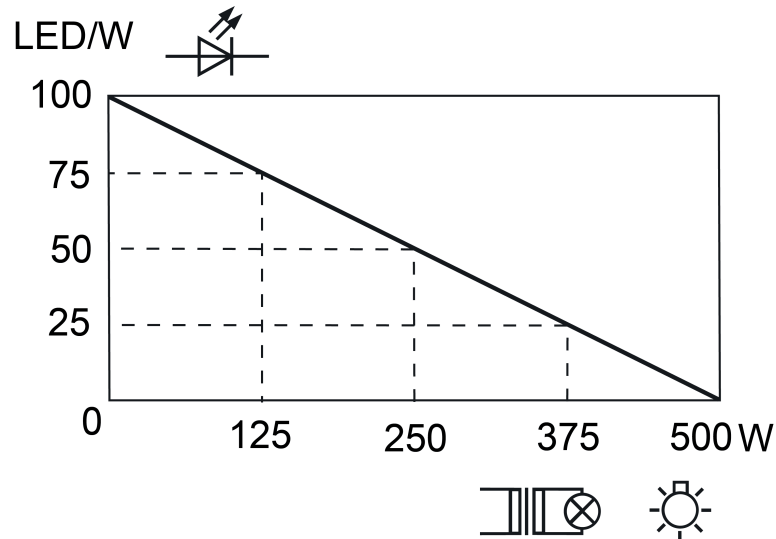

Figure 4
- i** Mixed-load operation of LED lamps or compact fluorescent lamps with other permissible loads possible. Note load curve (Figure 4).